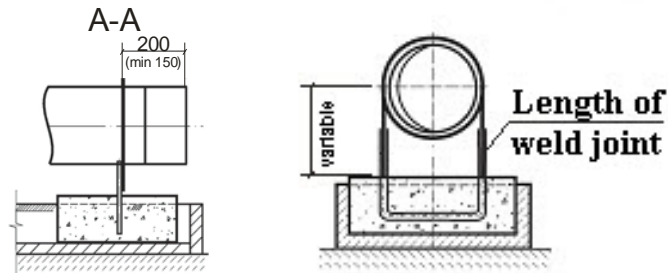

Fig. 5.2 – Succession of the fasts welding
Onto the aerator in a junction of couplings put on the fixing element at the rate of 1 fixing element through each two meters (fig. 5.2).
The free butt of the aerator is screwed down by polyethylene stopper (fig.5.1, pos.3). The fast is fitted on the butt of the aerator onto distance of 200mm from edge of polyethylene stopper (fig.5.2).
After installation of the aeration joint in strictly horizontal position the fasts are welded on (the length of welded joint should be 50-70 mm) (fig. 5.2) to embedded items by turns in the line of from airfeeding pipe riser to the end of joint (fig.5.2).